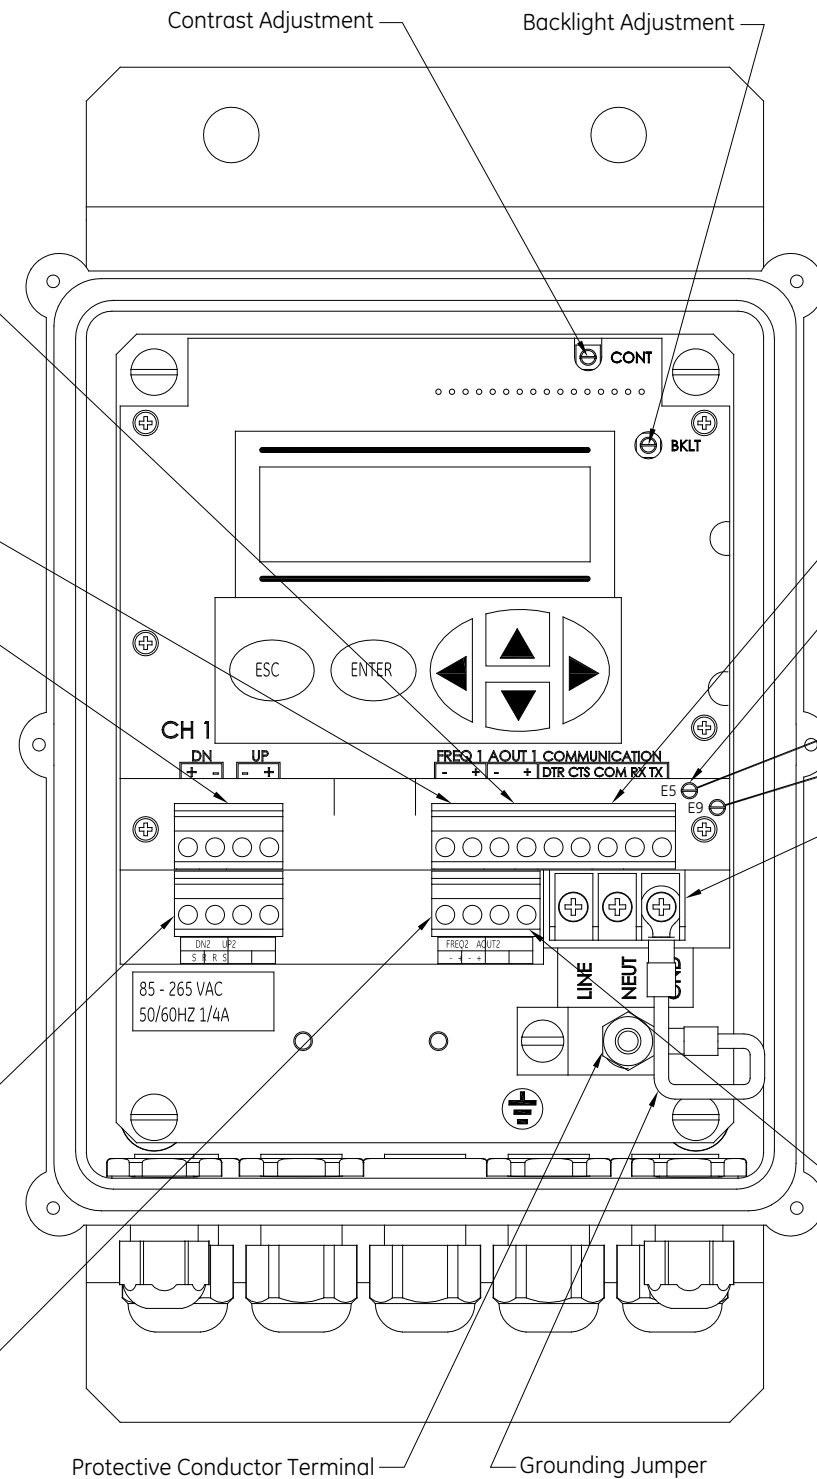

Figure 4: Wiring Diagram (Ref. Dwg. #702-425)
3. Feed the flying leads end of the cable through the conduit hole and wire the leads to the **COMMUNICATION** terminal block as shown in *Figure 4* on page 14. Connect the other end of the cable to the printer, ANSI terminal or personal computer, and secure the cable clamp.
To wire the RS485 serial port, refer to *Figure 4 on page 14* and complete the following steps:
2. Feed one end of the cable through the conduit hole and wire the leads to the **COMMUNICATION** terminal block as shown in *Figure 4 on page 14*. Secure the cable clamp.
2. Feed the wires through the conduit hole and wire lead TMT+ to pin 2 (RX) on the **COMMUNICATION** terminal block (refer to *Figure 4 on page 14* for the terminal block location).
3. Wire lead TMT- to pin 1 (TX) on the **COMMUNICATION** terminal block and secure the cable clamp.
2. Refer to *Figure 4 on page 14* to properly connect the external switch to the AT868.